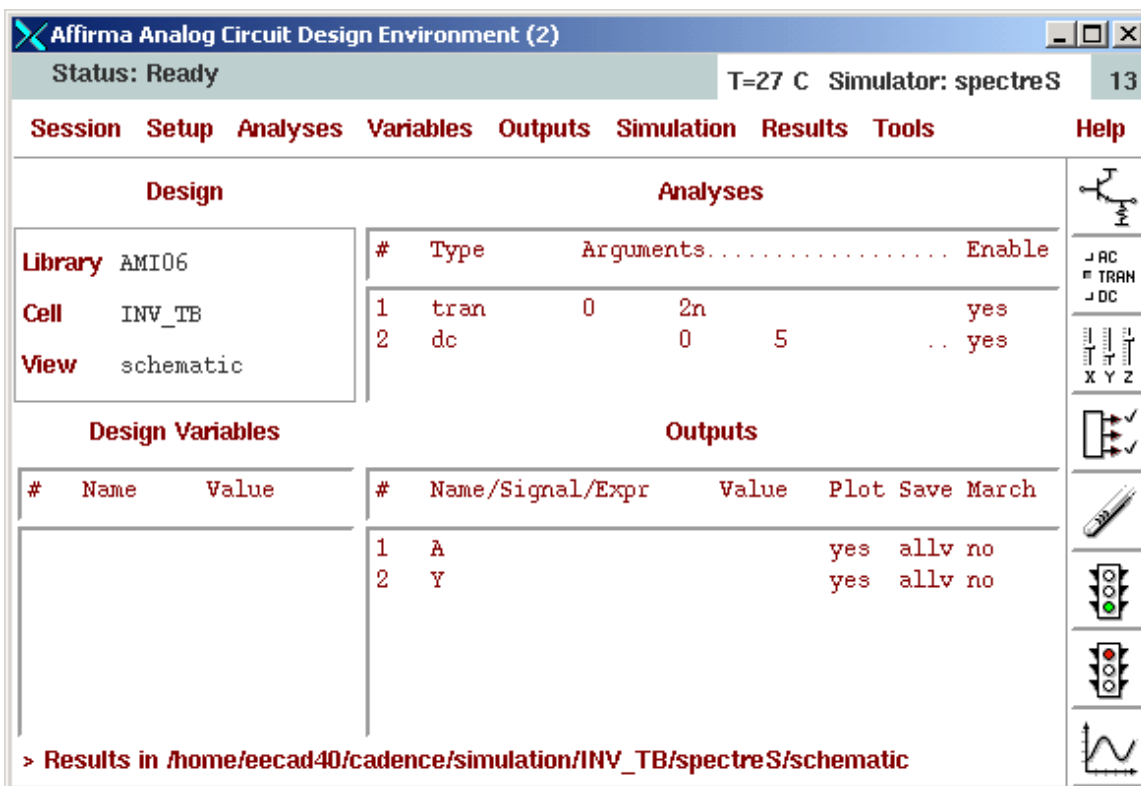

Figure 100: Setting for post extraction simulation.
2. Set up the simulation as before (Figure 100).